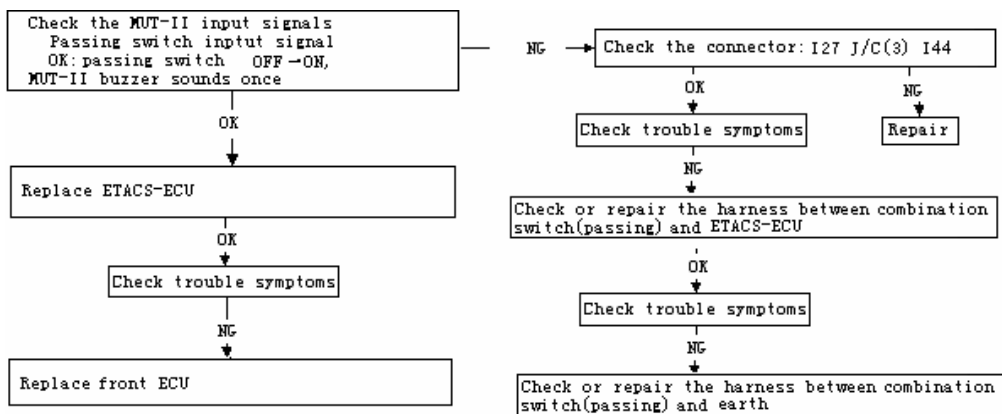

Fig 20-52
(4)Checking procedure No.4 as table20-14 and fig20-52.